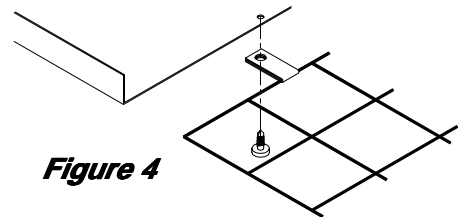

Figure 4
- 7) Reattach guard. **See Figure 4.** Using the three clips and #10 x 1/2" screws (provided), attach the guard to the bottom housing panel.